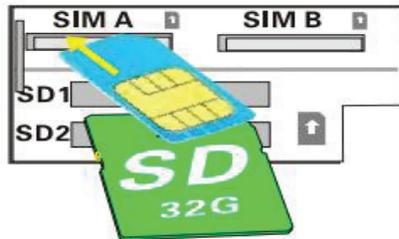

FIG. 4
Step 2: Install SIM and SD card (FIG. 4)
Step 3: Lock the electronic lock. (FIG. 4)